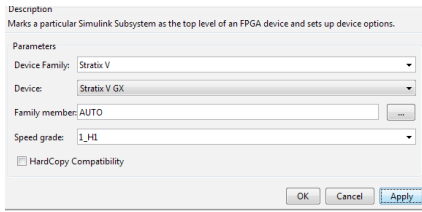
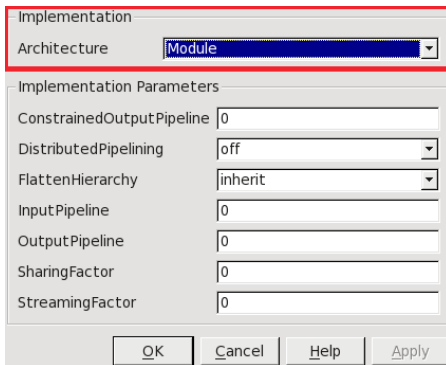

Figure 3. Options for the DSPB Device block.
Figure 6. DSPB subsystem implementation parameters in HDL Coder.
- Device block (Figure 3):
In addition to the settings described above for HDL code generation, HDL Coder requires the **Architecture** parameter of DSPB subsystems to be set to **Module** (Figure 6). If code generation is performed with HDL Workflow Advisor, the device settings for Workflow Advisor and DSPB Device blocks must be identical, as shown in Figures 3 and 7.